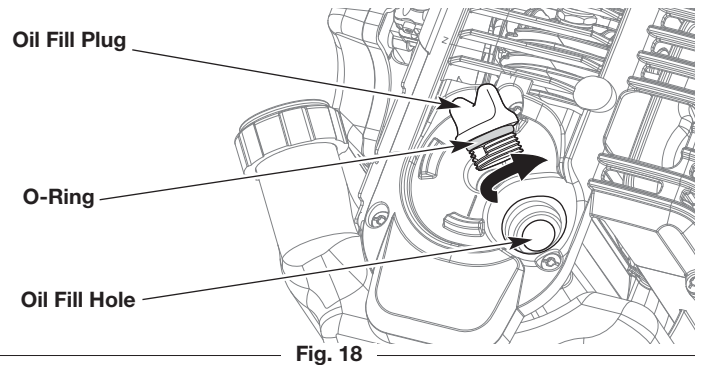

Fig. 18
3. Clean the area around the oil fill plug (Fig. 18) to prevent debris from entering the oil fill hole.
NOTE: Make sure the O-ring is in place on the oil fill plug (Fig. 18).
1. Clean the area around the oil fill plug (Fig. 18) to prevent debris from entering the oil fill hole.